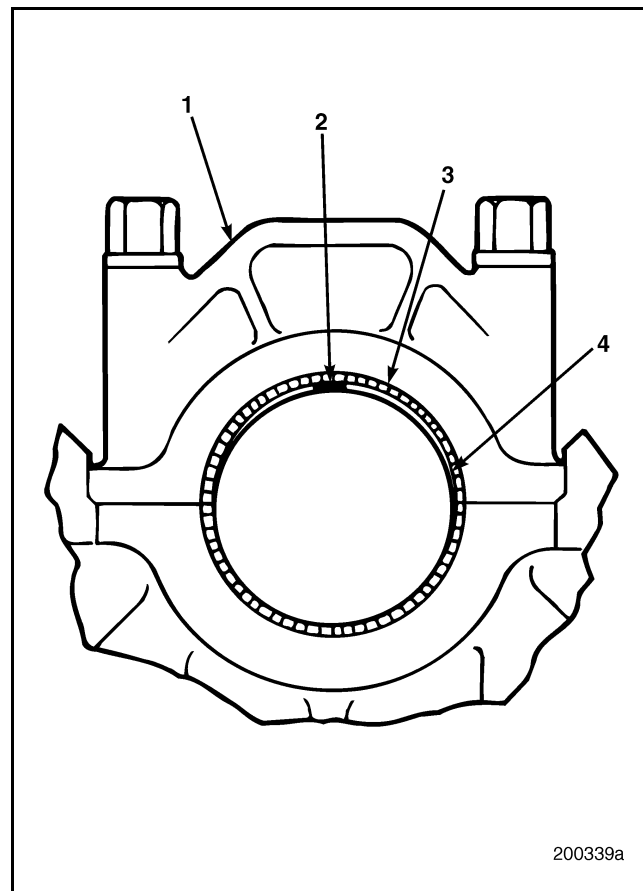

Figure 327 — Checking Running Clearance with Plastigage
2. Place a section of Plastigage on the journal to be checked and assemble the main bearing cap to the cylinder block as shown in Figure 327.